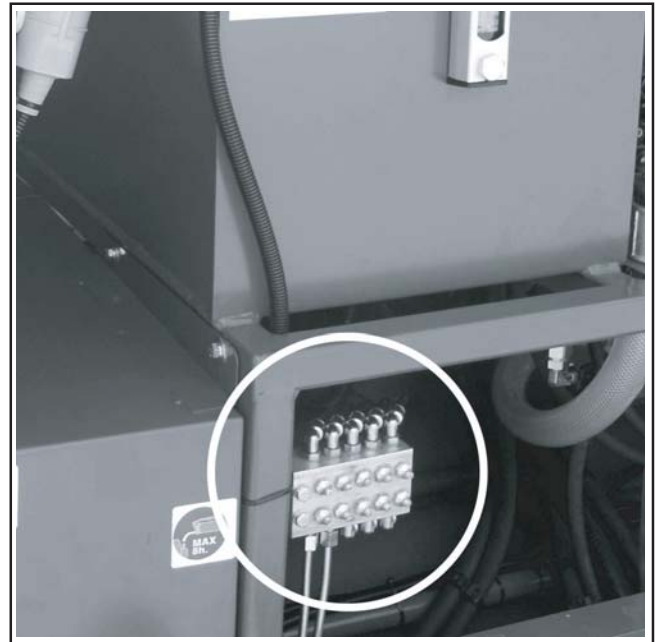

FIG.37
- Use the supplied grease pump to grease the greasing points (FIG.37).